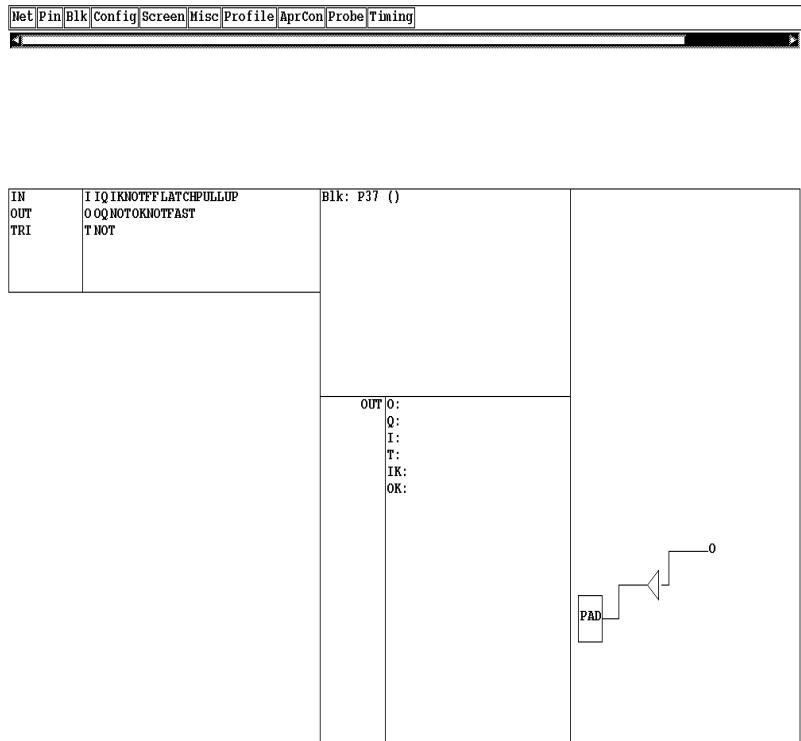

Figure 9-33 IOB Configured as an Output Pin
5. Make sure your EditBlk screen resembles Figure 9-33 as follows: